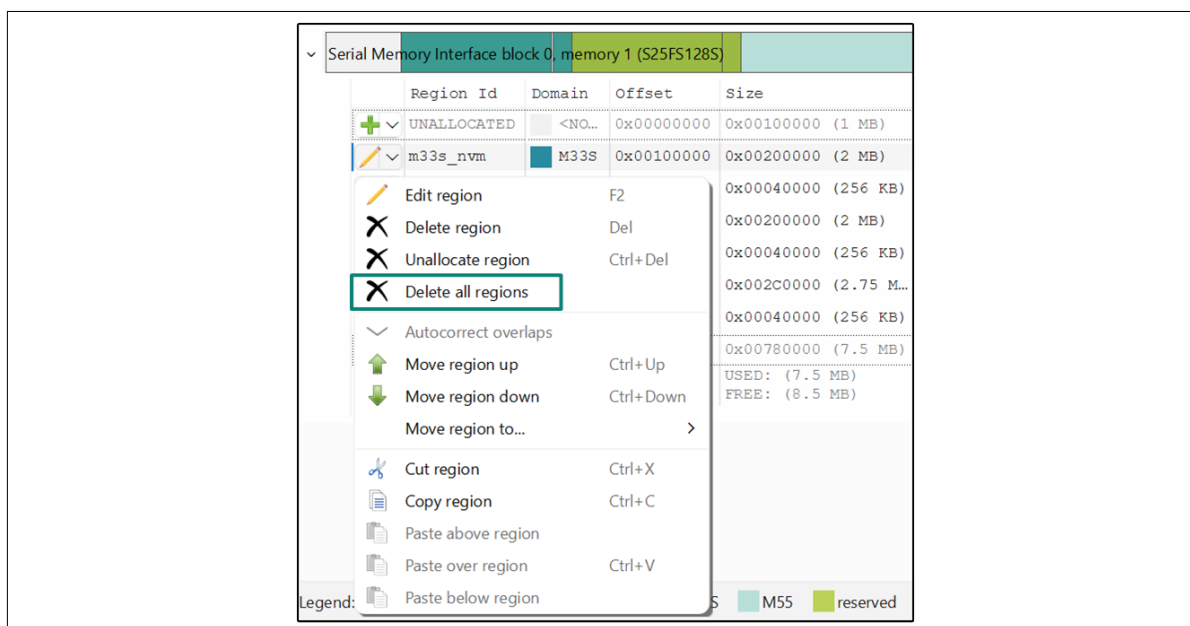

Figure 15 Delete all memory regions in external flash
- Click on the 'Pencil' icon located next to the m33s_nvm memory region and select 'Delete all regions' from the drop down menu as shown in Figure 15. Alternatively, you may right-click on any memory region under SMIF0 and select 'Delete all regions' from the drop-down menu